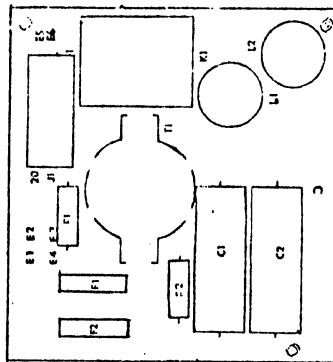

Figure 7-5. Ac Control Board
- d. Slide relay board part way out right side, unplug P1, disconnect drive motor, and ac input wires (Figure 7-5).